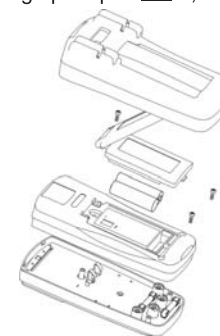

Figure 13
2. Battery or fuse tube replacement (See Figure 13)